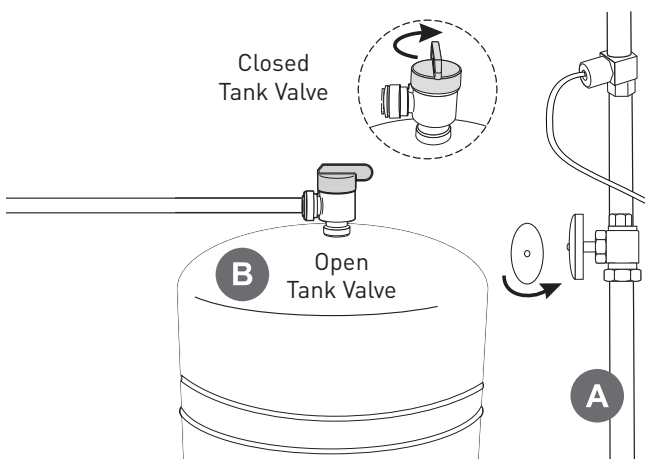

Figure 14
- A. Make sure cold water faucet is "off" (Figure 14).